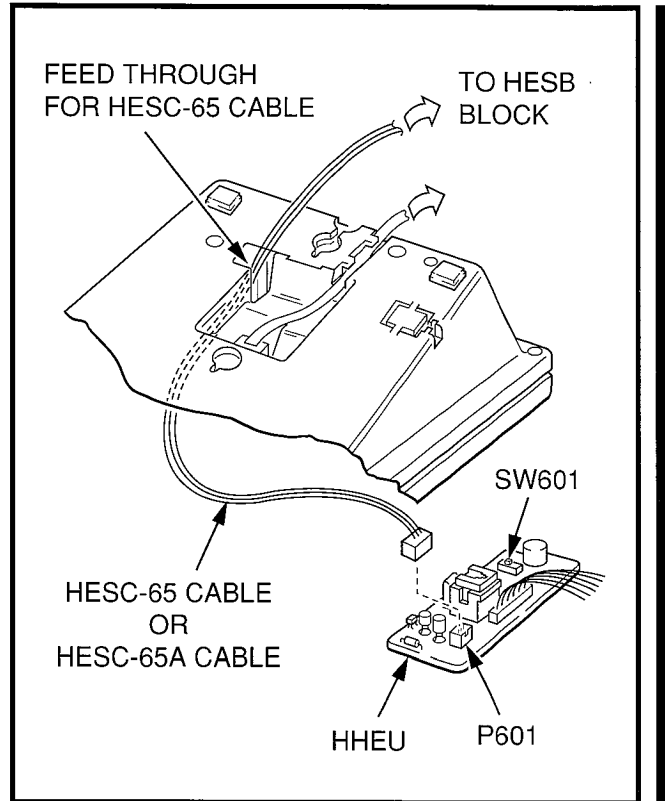

FIGURE 7-4—HESC-65 CABLING
- 4A) Connect the HESC-65 or HESC-65A cable (either one) to **P601** of the HHEU if the Loud Ringing Bell option is required (see Figure 7-4), and refer to HESB Option Installation, Section 200-096-208.